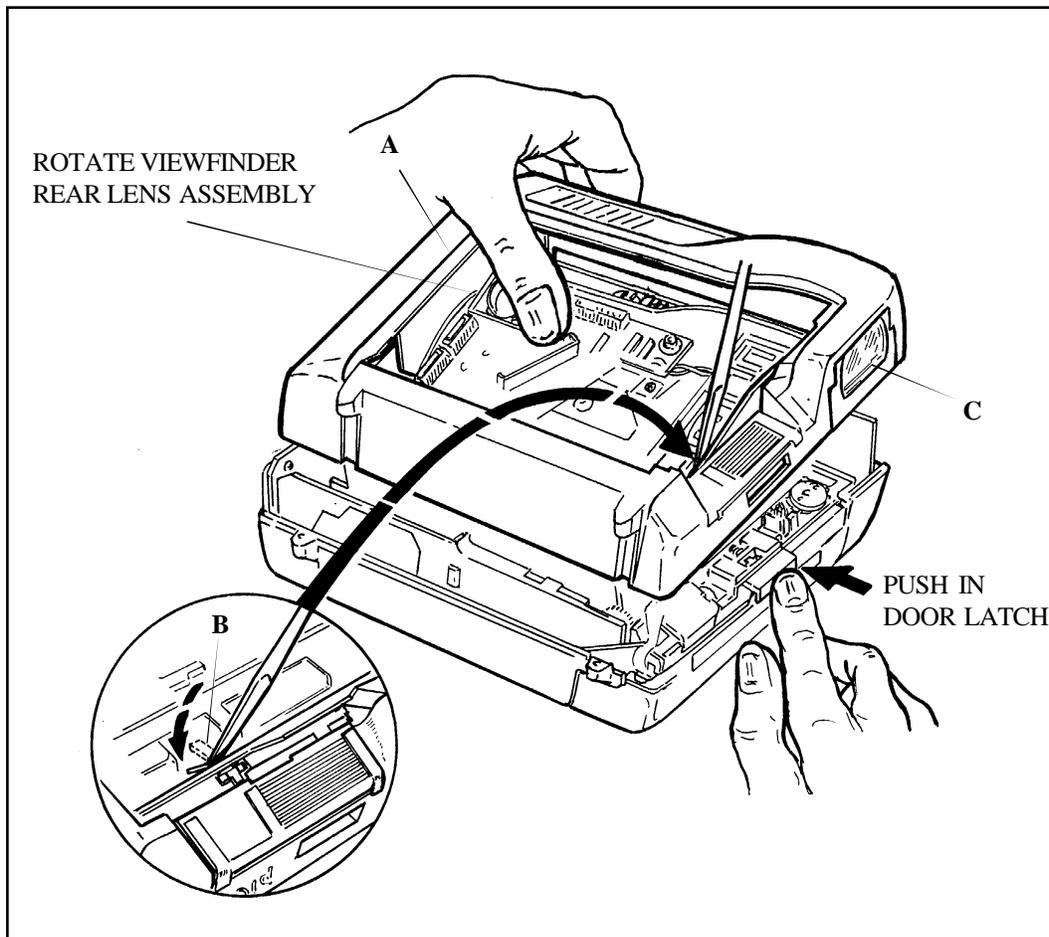

Figure 3-5. Replacing Top Cover and Mid Cover
- When replacing the Mid Cover, the spring-loaded lens assembly at the rear of the Viewfinder must be rotated 90° toward the front of the ProCam and kept tucked in under the VF Side Cover (Figure 3-5).
- Also, the molded vertical partition **A** on the Mid Cover (Figure 3-5) must slip down between this VF rear lens assembly and the vertical Interface PC Board.
- Also, using a greenstick, keep the lower leg of the spring-loaded Lens Cover actuating arm **B** (Figure 3-5) pushed forward and in front of the Front Bezel, as the Mid Cover is lowered into place.
- Finally, slip the Strobe Insert **C** (Figure 3-5) on the front of the Strobe and Reflector Assembly into place in its Mid Cover recess.